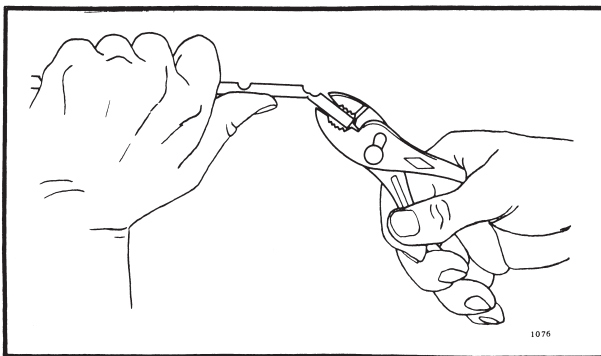

FIG. 3—SHORTENING THE BULB HOLDER.
3. Break off bulb holder to desired length, as shown in Fig. 3. NOTE: Holder should be long enough to hold sensing bulb in freely circulating air, away from duct wall. Neatly coil any excess capillary tubing at controller case or at bulb holder.